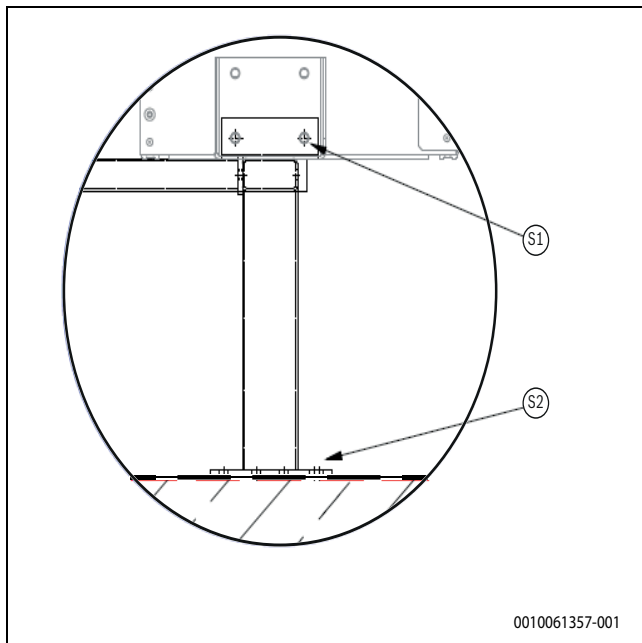

Fig. 30 Detail A
- A Boiler plinth → Fig. 30, page 19